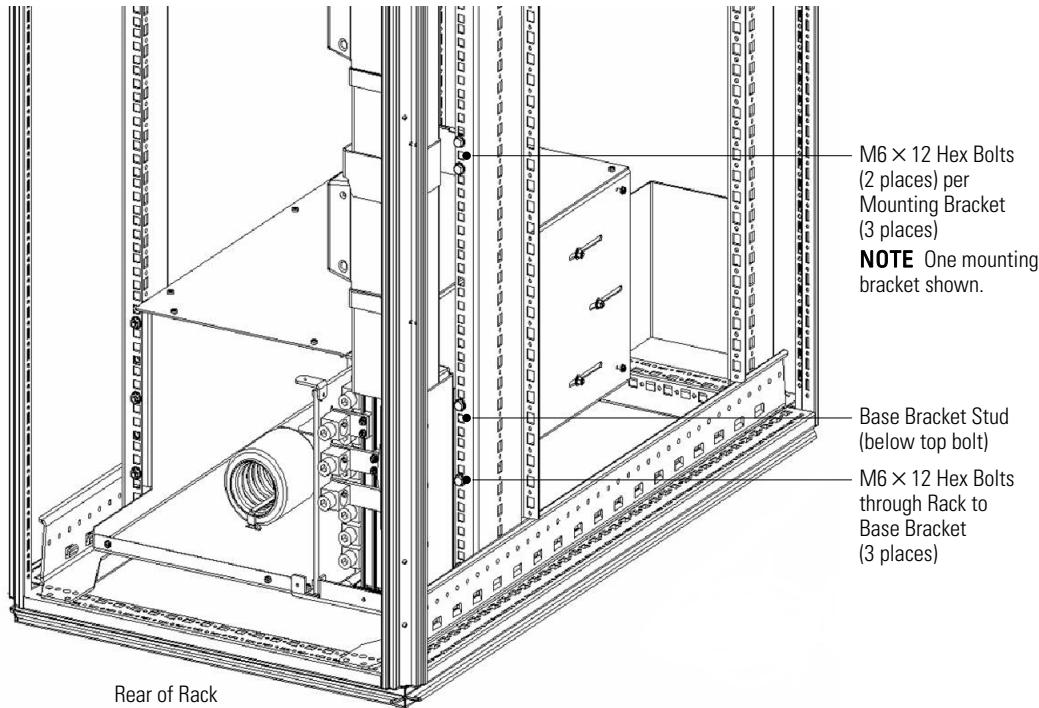

Figure 6. Bar Bracket Installation
Install the lowest bolt in position 2, then use positions 9 and 15. Verify that the base bracket stud aligns completely with the rack hole below the top bolt (position 14). See Figure 6. Torque the bolts to 5.1 ± 0.8 Nm (45 ± 7 lb in).
15. Install two M6 × 12 hex bolts in each of the bar's three mounting brackets, securing the length of the bar to the rack. See Figure 6. Torque the bolts to 5.1 ± 0.8 Nm (45 ± 7 lb in).